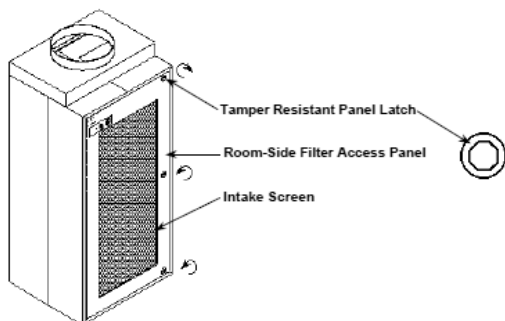

Figure 5: Filter Access Panel with Tamper Resistant Panel Latch
4. Open the room-side Filter Access Panel using the latch key to unlock the three tamper resistant panel latches by turning in the direction indicated in Figure 5 below.